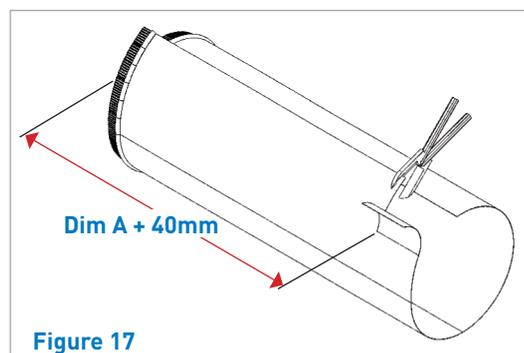

Figure 17
- If necessary, one of the tubes can be cut down to achieve the required finished length. The tubes have a crimped edge at the top and the length required should be measured from this edge plus an additional 40mm which will allow for the overlap. It is advisable to cut this tube only after any other straight lengths have been fitted so as to ensure accuracy of measurement. Once the cut length has been determined the end of the tube can be cut using tinsnips. **Take care as the cut edges will be sharp and it is recommended that protective gloves are worn (Figure 17).**